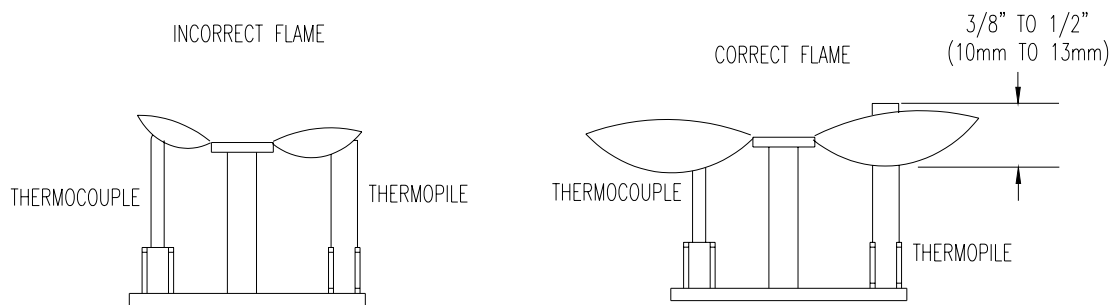

Figure 24
For proper operation, the pilot and main burner flames must be steady and not lifting off or floating. The top $3/8'' - 1/2''$ (10-13mm) of the thermopile should be engulfed by the pilot flame. The pilot flame adjustment should be performed by a qualified service person only. To adjust the pilot flame, turn the pilot adjustment screw counter-clockwise to increase, and clockwise to decrease the flame. Ensure that the pilot flame completely engulfs the thermopile (see Figure 24).
2. Visually check the burner and pilot flames occasionally. Visually inspect height and colour of flames (see Figure 24).